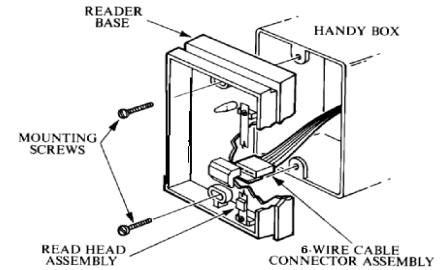

Figure 1
- 2 The reader can be mounted on a standard single-gang handy box, (the preferred method) or on any firm flat surface. The mounting screws should be firmly tightened, but not excessively. Note that the read head assembly screws are purposely loose to allow the head to "float"; no adjustments are necessary. See figure 1.